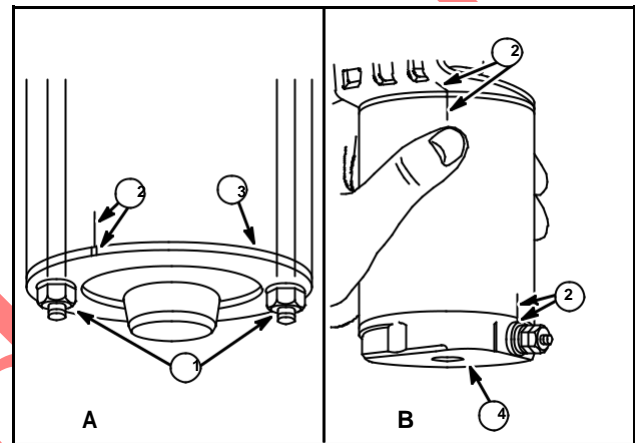

Fig. 83
1. Remove the lockwasher, nuts and thru bolts (1), Fig. 83. Note location of thru bolts and match marks (2). They must be reassembled in the same position to prevent interference.
3. To remove the commutator end cap (4), lift the brush springs and slide brushes out of the brush holders.
4. Clean all residue from the armature, commutator end cap (3), drive end cap, etc.